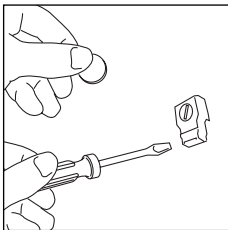

fig. 7
- Turn the battery cover (fig. 7) placed on the back in an anti-clockwise direction until it is released.